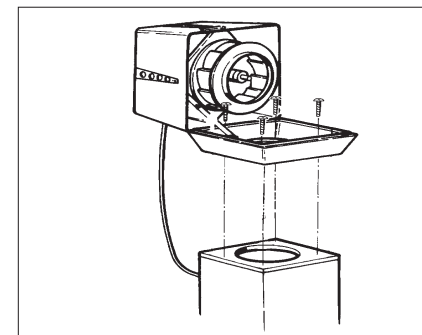

Fig 3
- If the fan is supplied with a curb cap, secure the cap to the roof curb with self-tapping sheet metal screws (see Fig. 3).